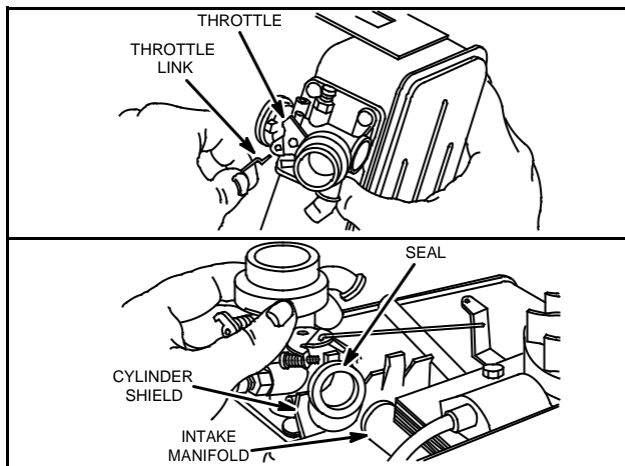

Fig. 223 - REMOVING CARBURETOR
3. Slip carburetor over notch in cylinder shield and away from intake manifold, Fig. 223. Rotate carburetor and tank assembly to disconnect governor link from throttle lever.